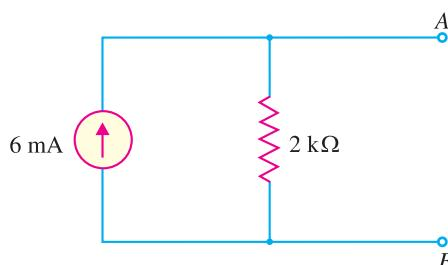

Fig. 1.18
**Example 1.4.** Convert the constant current source in Fig. 1.18 into equivalent voltage source.